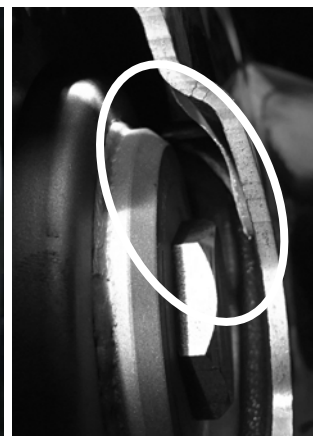

Figure 8b
- 4) Inspect the inside of the outer primary for a plastic oil deflector or casted in oil deflector; figure 6 & 7. The plastic deflector needs to be removed for adequate clearance for the BAKER Compensator Sprocket Kit. If the deflector is casted into the inner primary; this area needs to be ground out using a small air die grinder or equivalent for proper clearance. Figure 8a shows the casted in deflector where it would hit the compensator sprocket. Figure 8b shows the area after it has been removed for clearance.